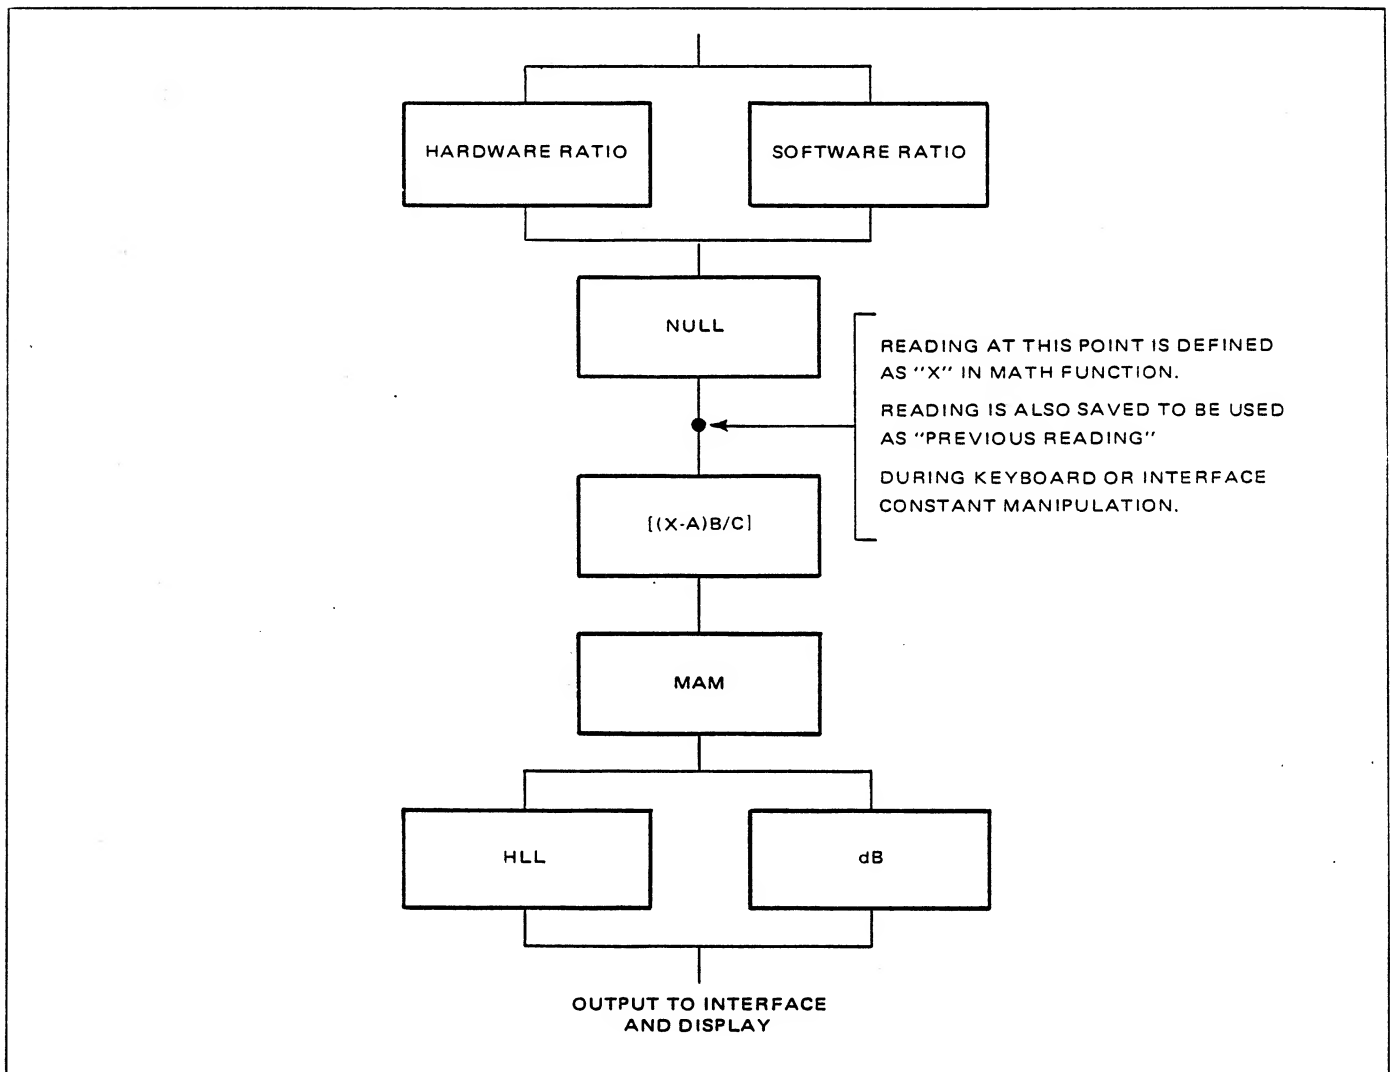

Figure 3.9 - Hierarchy of Operations
3.3.12.1 Multiple operations, if selected, will occur in the order shown in Figure 3.9.